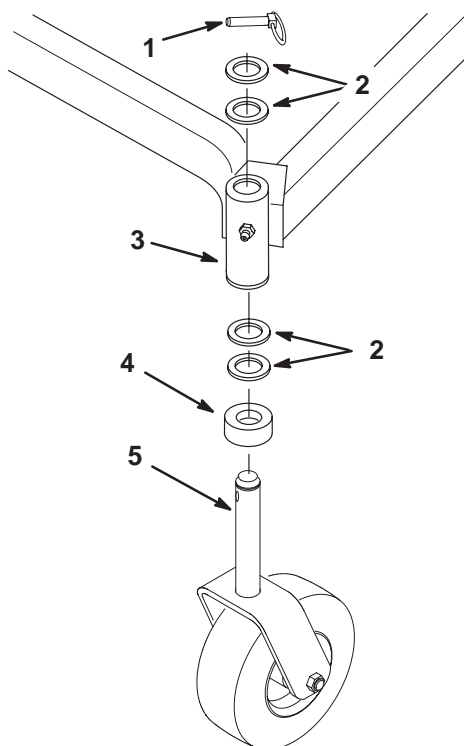

Figure 2
1. Place the 2 thrust washers and spacer onto the castor wheel fork (Fig. 2).
2. Insert the castor wheel fork into the carrier frame mounting tube (Fig. 2).
4. Secure the assembly with a locking pin (Fig. 2).